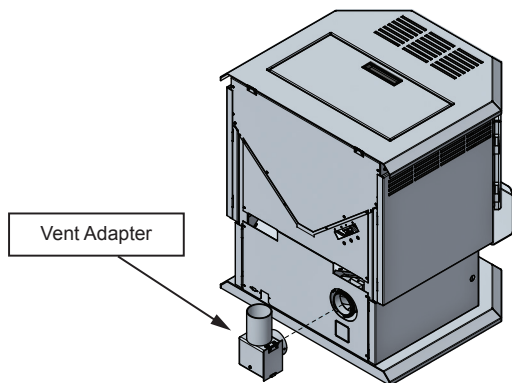

Figure 2
- Slide the Vent Adapter (C1) onto the exhaust outlet over bead of silicone making sure the adapter is rotated into the desired position (Figure 2).